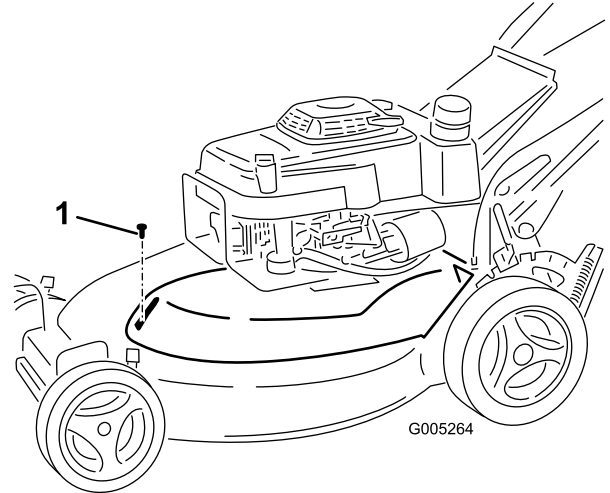

Figure 31
3. Remove the screw that secures the belt cover to the mower housing (Figure 31).